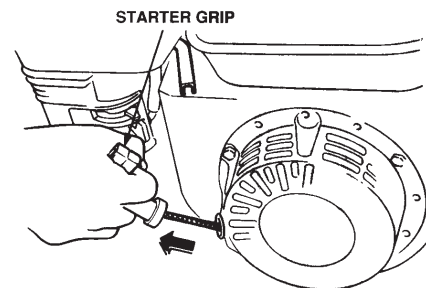

Figure 23. Starter Grip
11. If starting your welder-generator by the **recoil start method** (no battery), grasp the starter grip (Figure 23) and slowly pull it out. The resistance becomes the hardest at a certain position, corresponding to the compression point. Pull the starter grip briskly and smoothly for starting.